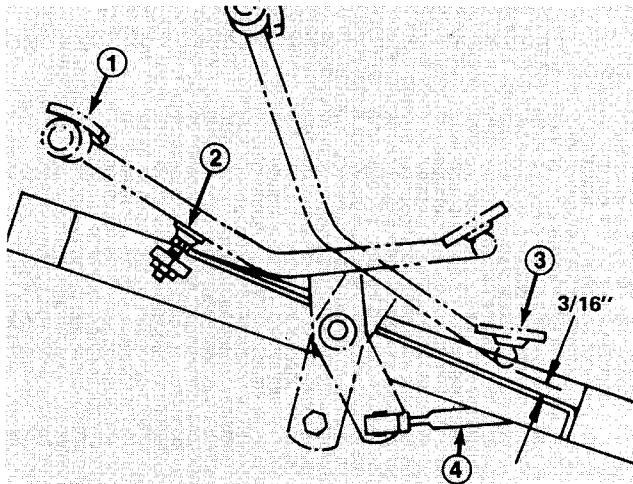

Figure 45
ADJUSTING TRACTION PEDAL (Fig. 45)
2. Check distance between bottom of pedal and footrest as shown in Fig. 45. Distance should be approximately 3/16". If distance is greater or less than 3/16" dimension, an adjustment to the traction control rod is required.